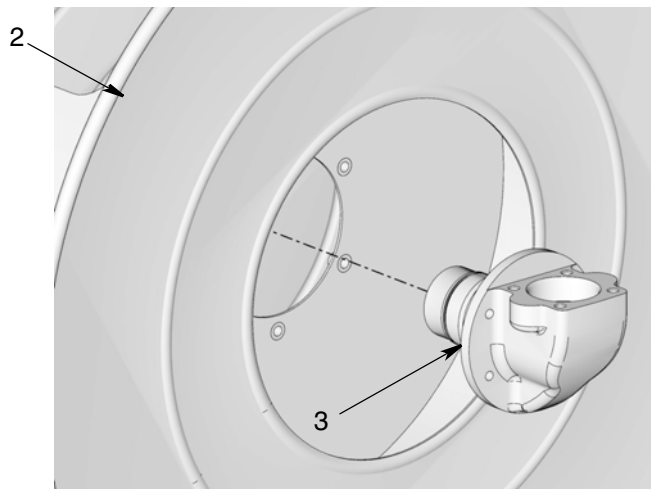

FIG. 32
1. Install swivel (3) inside spool on the inlet side (FIG. 32).